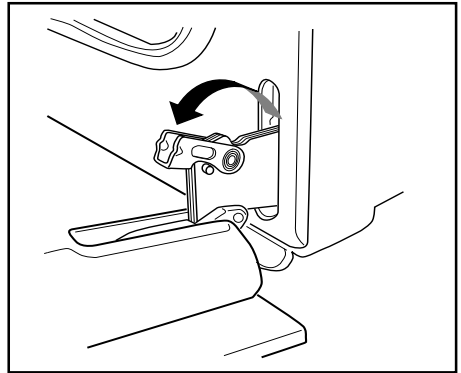

Fig. 10
- 3) lift and turn the levers on the two hinges (Fig. 10);